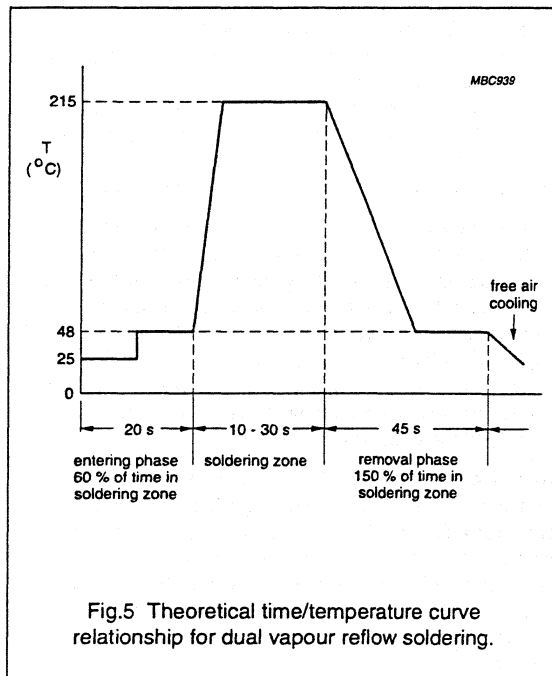

Fig.5 Theoretical time/temperature curve relationship for dual vapour reflow soldering.
3. Push down the clip over the device until the long end of the clip snaps into the wide slot in the heatsink. The clip should bear on the plastic body, not on the tab. See figure 5.
A substrate is immersed in the vapours of a suitable boiling liquid. The vapours transfer latent heat of condensation to the substrate and solder reflow takes place. Temperature is controlled precisely by the boiling point of the liquid at a given pressure. Some systems employ two vapour zones, one above the other. An elevator tray, suspended from a hoist mechanism passes the substrate vertically through the first vapour zone into the secondary soldering zone and then hoists it out of the vapour to be cooled. A theoretical time/temperature relationship for this method is shown in Fig.5.